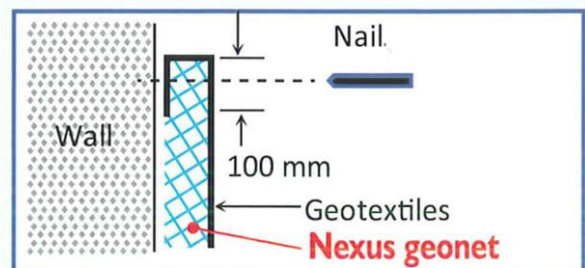

Fig 15 - Top end details
3. Nail top ends of Nexus geonet/geotextiles to the back of the retaining wall (Fig.15).